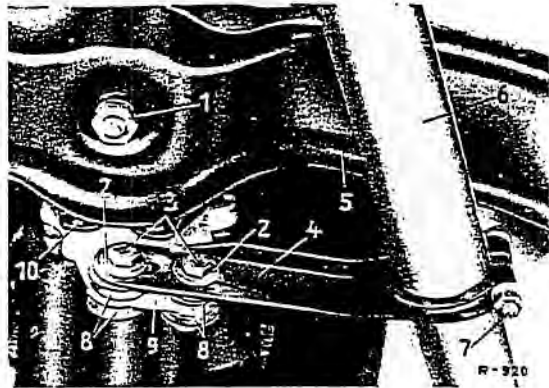

Fig. 49-1/1
2. Unscrew the exhaust bracket (4) from the mounting plate (9) on the rear transmission housing cover (Fig. 49-1/1), and, if installed, detach the rubber rings (10) for fastening the exhaust line to the chassis base panel (Fig. 49-1/2).